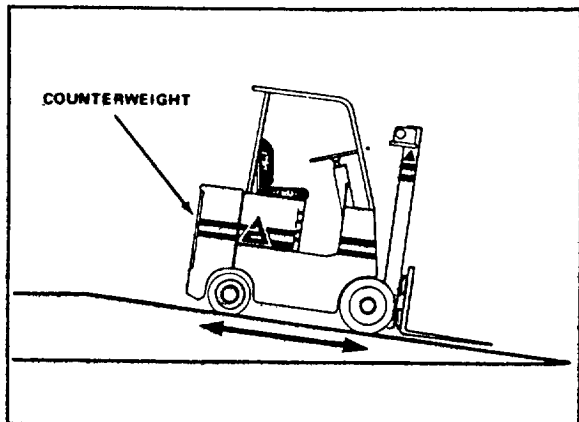

Figure 4-8. Unloaded Traveling Procedure
- f. With an unloaded lift truck, ascend ramps with the counterweight leading. Descend the ramp with the counterweight trailing (Fig 4-8).